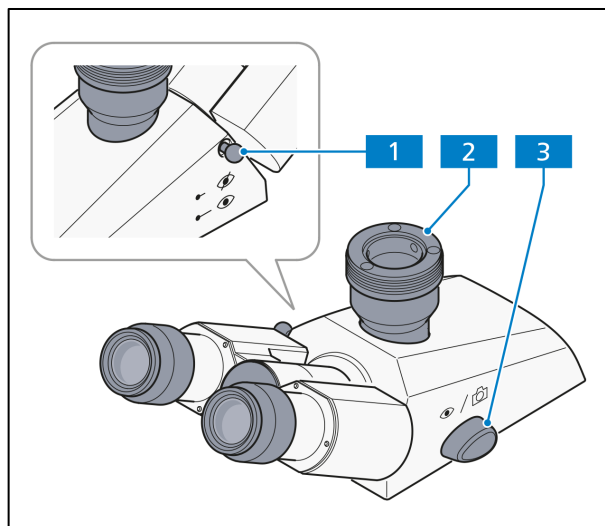

Fig. 2-8 Binocular photo tube
The photo port (Fig. 2-8/2) of the binocular tube can be used to mount a reflex camera, a microscope camera or a video camera with the aid of appropriate adapters.
- Shift knob (Fig. 2-8/3) in forward position (eye symbol):
- Shift knob (Fig. 2-8/3) in back position (camera symbol):
- Left push-pull rod (Fig. 2-8/1) pushed in:
- Left push-pull rod (Fig. 2-8/1) pulled out: